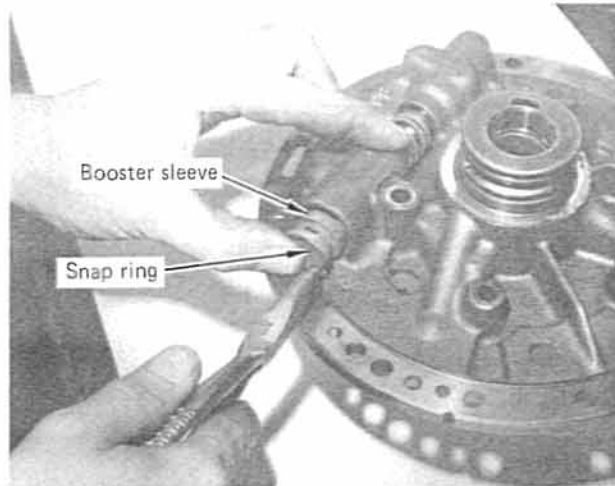

FIGURE 37
**STEP 6.** Install the booster valve/sleeve assembly into the pump with the valve facing in. (See Fig. 37) Hold the sleeve in place and install the snap ring. Make sure the snap ring is fully seated in its groove. Install regulator valve plug in opposite end next to regulator valve. Push in on plug and install retaining pin into its hole.